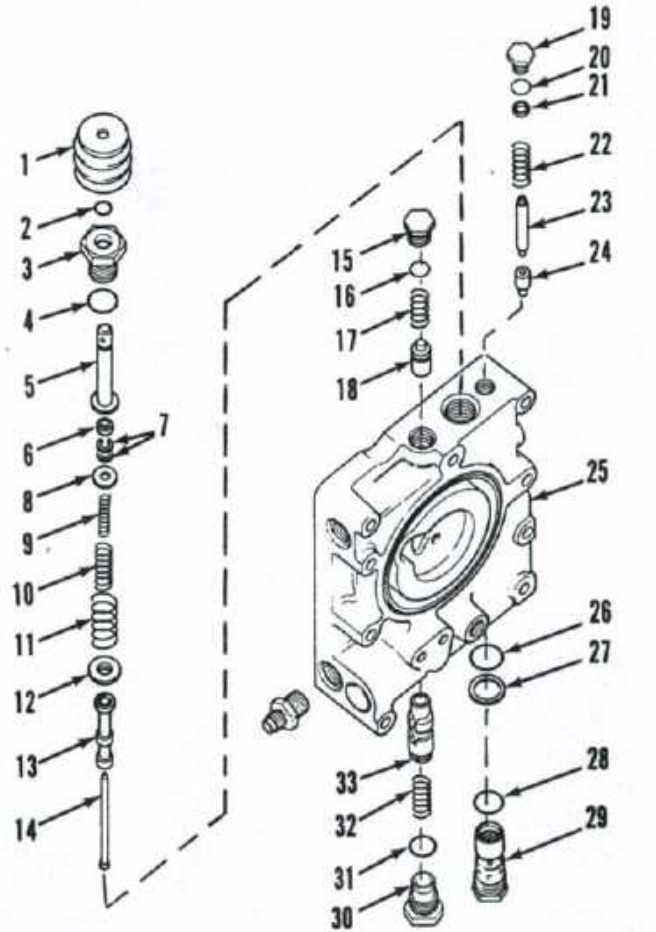

Fig. 33—Exploded view of the multiple control valve assembly.
**22. PRIORITY FLOW DIVIDER.** To check the flow divider valve (33—Fig. 33), first remove the pilot relief valve (29) and install a test pilot relief valve from test kit No. 399858R92. Disconnect power steering supply pipe (directly below hydraulic filter). Cap the pipe and connect the inlet hose of a flowmeter to the steering supply union. Place the flowmeter outlet hose in the transmission oil fill hole and secure with wire. Move the position and draft control levers fully forward to prevent hitch movement during test. Fully open load valve on flowmeter. Start and operate engine at low idle speed. Turn load valve until a reading of 1000 psi (6895 kPa) is on pressure gage and record the flow. Increase the load to 1600 psi (11032 kPa) and record the flow. Fully close the load valve and record the reading on pressure gage. Then, fully open the load valve. Increase the engine speed to 2180 rpm on Models 385 and 485, 2300 rpm on Model 585 and 2400 rpm on Models 685 and 885. Repeat the steering flow checks and maximum pressure test at the correct rpm for each model. All of the flow readings should be between 2.6 and 3.1 gpm (9.9 and 11.8 L/min.). Maximum pressure with the load valve fully closed must be 2500 to 2600 psi (17238 to 17927 kPa).
**25. HYDRAULIC PUMP.** To check flow and pressure of the hydraulic pump, first remove the plug (30—Fig. 33) for the flow divider. Remove spring (32) and spool (33), then reinstall plug. Remove the pilot relief valve (29) and install a test pilot relief valve from test kit No. 399858R92. Disconnect the power steering supply pipe (directly below hydraulic filter). Cap the pipe and union on multiple control valve with high pressure caps. Disconnect hitch supply line (bottom rear line on multiple control valve) and cap the line. Connect the inlet hose from the flowmeter to the hitch supply union on the multiple control valve. Place outlet hose from flowmeter into transmission oil fill hole and wire in place. Fully open load valve on flowmeter. Start engine and operate at a speed of 2180 rpm for Models 385 and 485, 2300 rpm for Model 585 or 2400 rpm for Models 685 and 885. Record the flow. Close load control valve to obtain
**28. R&R AND OVERHAUL.** To remove the flow divider spool (33—Fig. 33) and spring (32), remove plug (30) with "O" ring (31). Clean and inspect parts. Spring (32) should have a free length of 3.253 inches (82.63 mm) and should test 29.7 lbs. (132 N) when compressed to a length of 2.017 inches (51.23 mm). Check spool (33) and spool bore in multiple control valve housing (25) for excessive wear, scoring or other damage. Spool (33) and housing (25) are a matched set and are renewed only as a new multiple control valve assembly.